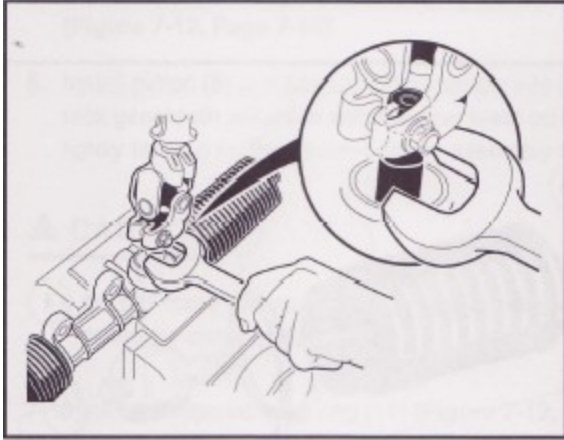

Figure 7-9 Remove Pinion from Housing
10. Install the universal joint to the pinion and place a large open end wrench under the universal joint (Figure 7-9). Use the wrench as a lever to pull the pinion from the housing.